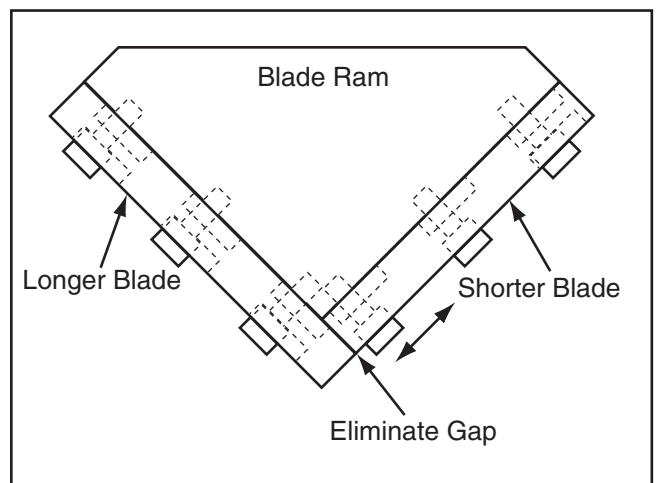

Figure 14. Eliminating blade gap.
4. Adjust the position of the shorter blade so that its end is directly against the rear face of the longer blade to remove any gap, then tighten the cap screws (**Figure 14**).